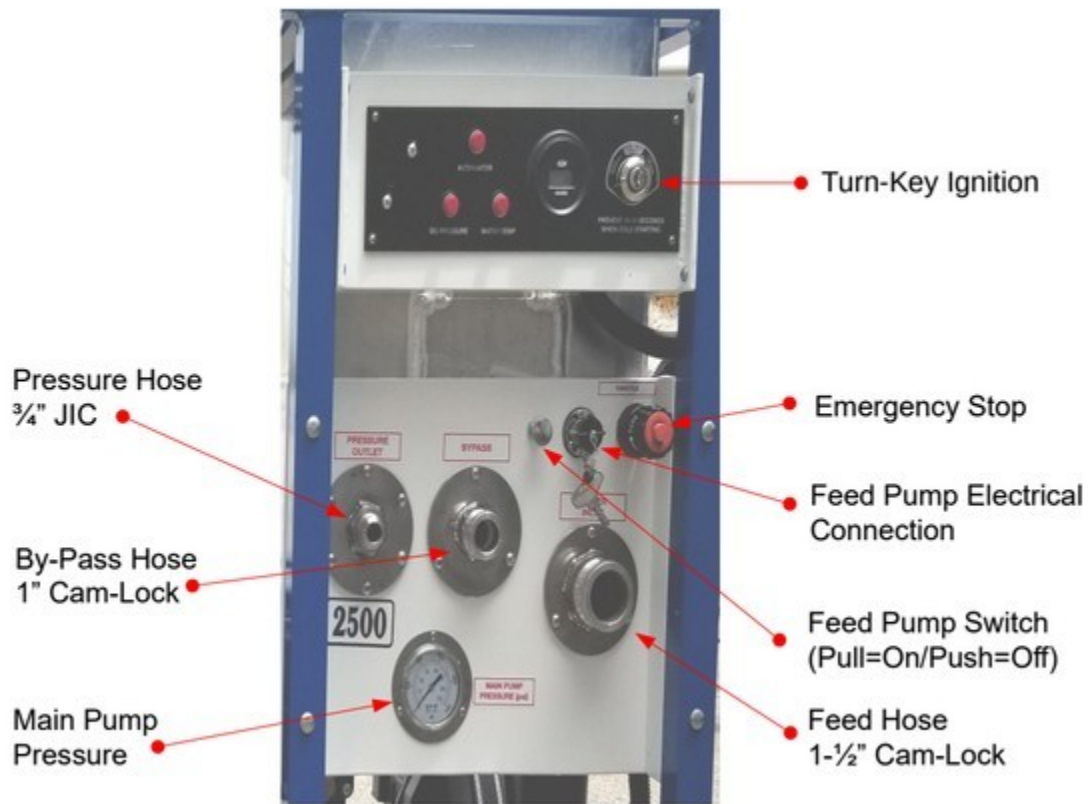

Figure 5.1 – Engine Throttle Control
- 4) Verify that the throttle cable is fully depressed (See Fig. 5.1).
- 4) Throttle the engine up by completely pulling the throttle cable all the way out and twisting to lock it (See Fig. 5.1).
1. Engage the pressure pump by pulling the engine throttle lever (Figure 5.1) to the operating speed position (fully extended) to engage the centrifugal clutch. Tighten the thumb screw to hold throttle in operating speed position.
4. If the diver operating the CaviBlaster™ unit must be replaced or the cleaning operation must be terminated, disengage the pressure pump by pushing the throttle lever in to the idle position (Figure 5.1) and release the water pressure remaining in the hose(s) by moving the **ZT-Gun / CaviDome™** trigger to the open or "ON" position while under water. If using the **CaviBlaster™ Lance** there is no trigger to operate, it will release by itself all pressure after turning the unit OFF. Revert to step 1 of the operating instructions when the diver or replacement is ready to continue cleaning.